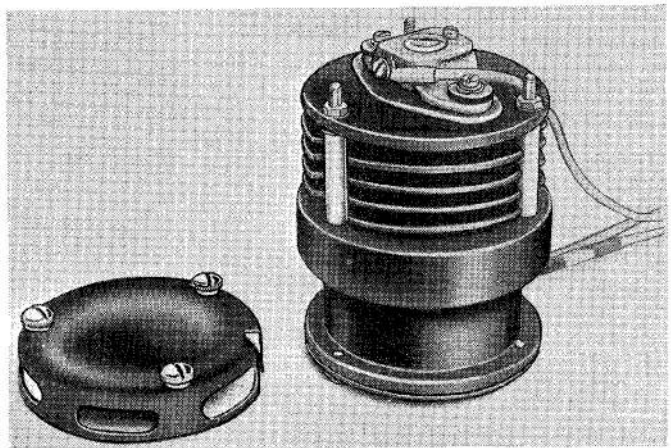

Fig. 1. Voltage regulator, Type 93
2. The voltage regulator (*fig. 1*) is of the single pile type, its assembly consisting of an operating coil and magnetic circuit, an armature and leaf spring arrangement, and a pile of carbon washers. General information on the constructional